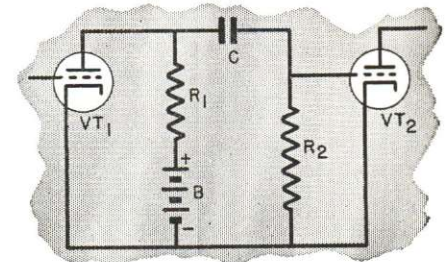

FIG. 33. A typical resistance-capacitance circuit utilizing the basic circuit actions of Fig. 32.
A Typical Circuit. Fig. 33 is a typical radio circuit where a condenser is used both as a blocking and a coupling condenser. Battery B causes a d.c. flow through tube VT_1 and through resistor R_1 . Condenser C prevents direct current flow from battery B through resistor R_2 . However, a.c. signals in the circuit of tube VT_1 are passed on to R_2 through condenser C , where they operate tube VT_2 .
10. Suppose distortion occurs due to a d.c. voltage across resistor R_2 of Fig. 33. Choose the two following conditions of condenser C which could cause this: 1, leaky; 2, open; 3, short-circuited; 4, normal condition.